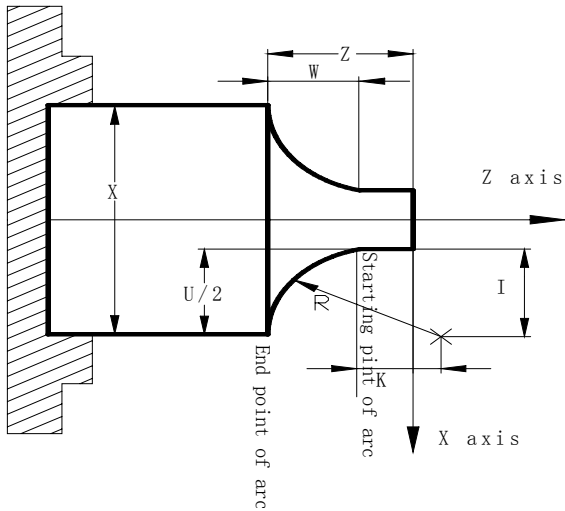

Fig.3-5 G02 path
**Instruction function:** G02 movement path is clockwise(rear toolpost coordinate system/counterclockwise (front toolpost coordinates system) arc from starting point to end point as Fig.3-5.